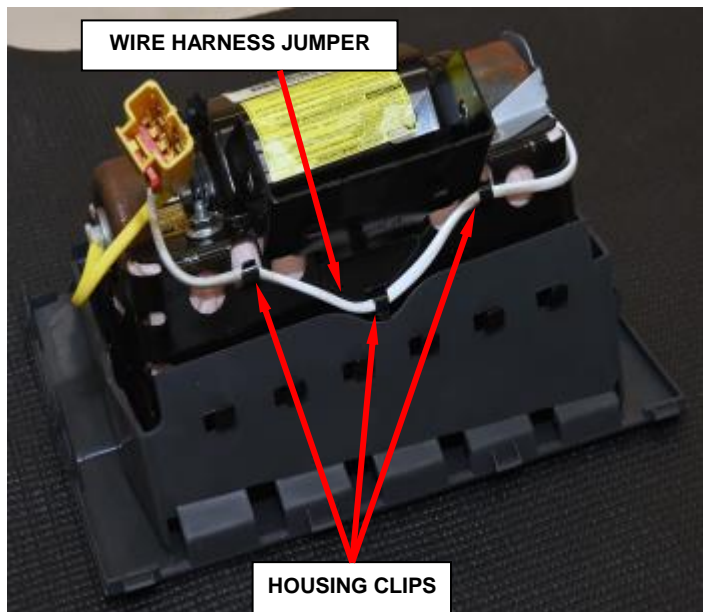

Figure 35 – Wire Harness Jumper
c. Disengage the wire harness jumper from the housing clips in three places (Figure 35).
- j. Engage the wire harness jumper under the housing clips in three places (Figure 35).